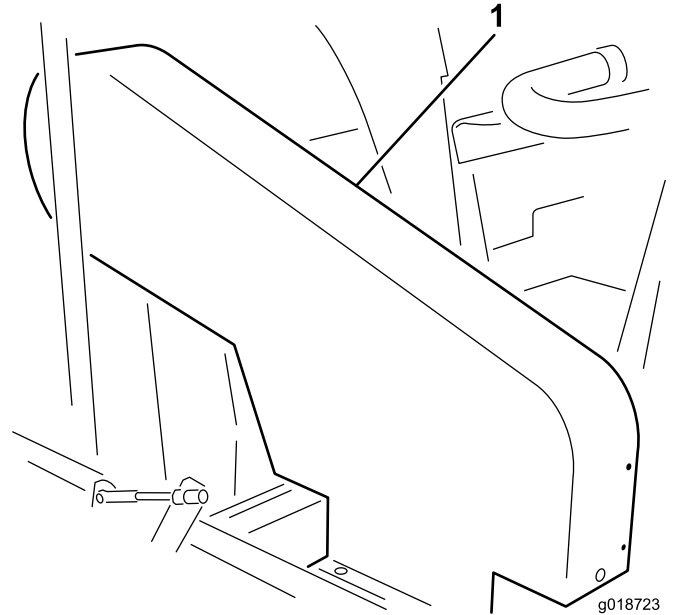

Figure 19
Note: It is not necessary to remove the upper belt guard (Figure 19) to check the belt tension. If for some reason the belt guard must be removed, remove the 4 bolts, washers, and nuts securing the guard to the frame. Never operate the machine without the guards in place.
Check the tension by depressing the belt at the mid span of the impeller and clutch pulleys with 18–22 N (4–5 lbs) of force. The belt should deflect 1.27 cm (.5 inches). If the deflection is incorrect, proceed to Adjusting the Impeller Drive Belt. If the deflection is correct, continue normal operation (Figure 19).
Check the tension by depressing the belt at mid span of the jackshaft and clutch pulleys with 18–22 N (4–5 lbs) of force. The belt should deflect 6.35 mm (.25 inches). If the deflection is incorrect, proceed to Adjusting the Jackshaft Belt. If the deflection is correct, continue normal operation (Figure 19).
1. Remove the 4 bolts, washers and nuts securing the upper shroud to the frame (Figure 19).